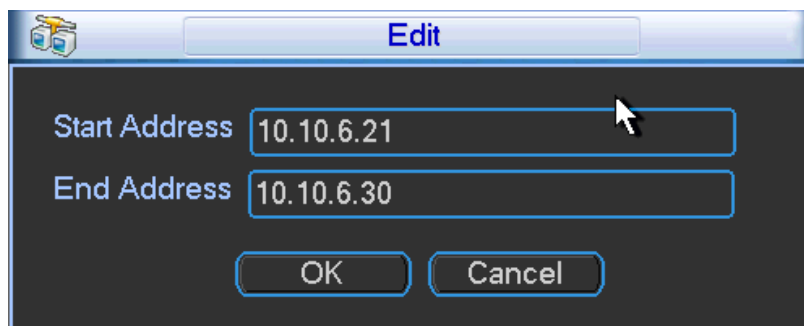

Figure 5-18
- z Edit: Click it to edit start address and end address. See Figure 5-18. System can check the IP address validity after the edit operation and implement IPv6 optimization.